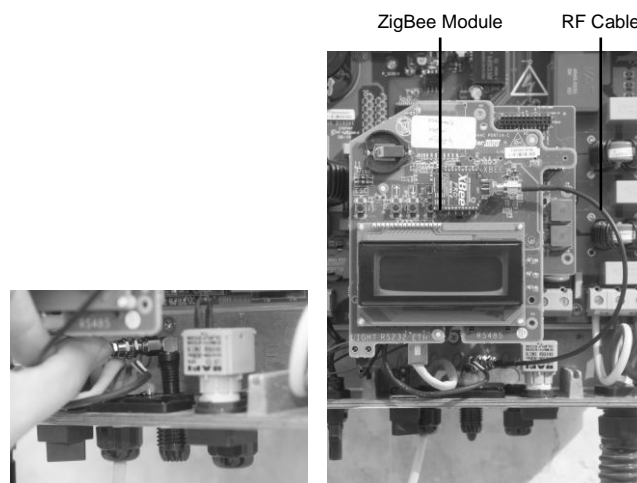

Figure 2: ZigBee Module and RF Cable
- 5** Connect the RF cable (see Figure 2) to the ZigBee module. Tighten the cable connector using a 5/16" torque wrench set to 3-5 in-lbf (0.3-0.6 Nm). If you do not have a torque wrench, tighten firmly with your hand. Make sure that after tightening the cable, the ZigBee module is still firmly in place.
- 7** Open the gland at the bottom of the inverter, as shown in Figure 2, and slide the antenna from the inside through the opened gland. Figure 2 shows the inverter, for example. The procedure for the Safety and Monitoring Interface (SMI) is similar.